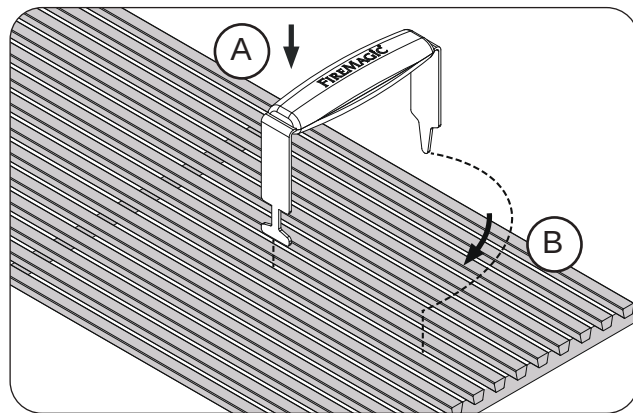
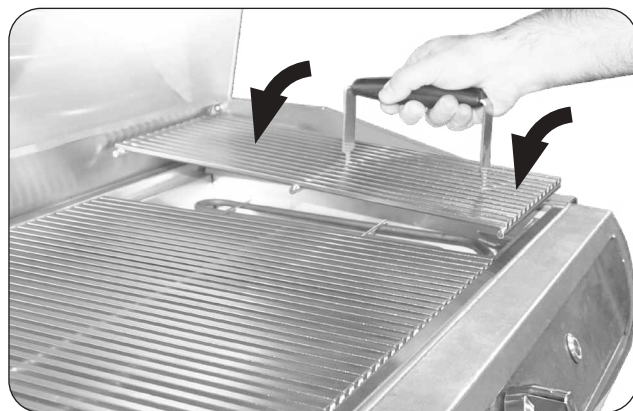

Fig. 33-1 Install cooking grids
Fig. 33-2 Install cooking grids
1. With the prongs facing downward, insert the notched-end of the lifter between two grid rods, then rotate, as shown in Fig. 33-1, A & B.
2. Insert the rear pointed-end of the lifter between the same two rods (Fig. 33-1, B) and carefully lift the cooking grid and place onto the front and rear grid rests of the grill (see Fig. 33-2). Repeat for all other cooking grids.